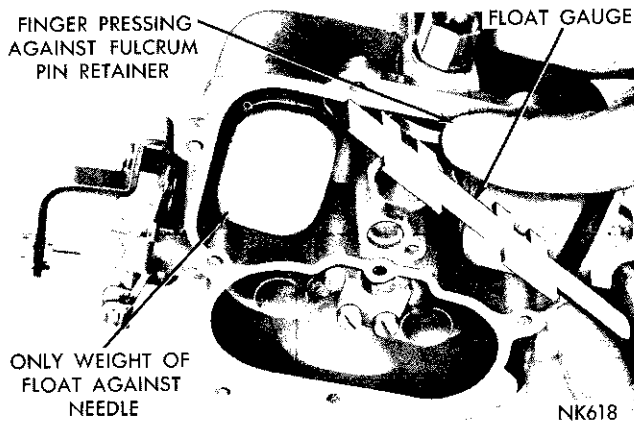

Fig. 8—Checking the Float Setting
(1) To correctly set the float height when the carburetor is being overhauled, install the floats with the fulcrum pin and pin retainer in the main body.
(2) Install the rubber-tipped needle, seat and gasket in the body and tighten securely.
(3) Invert the main body so that the weight of the float only is forcing the needle against the seat. Hold finger against the retainer to fully seat the fulcrum pin.
(4) Using Tool T109-280 or a "T" scale, measure the float, as shown in (Fig. 8). There should be  $\frac{5}{16}$  inch from the surface of the fuel bowl to the **crown of each float at the center**.